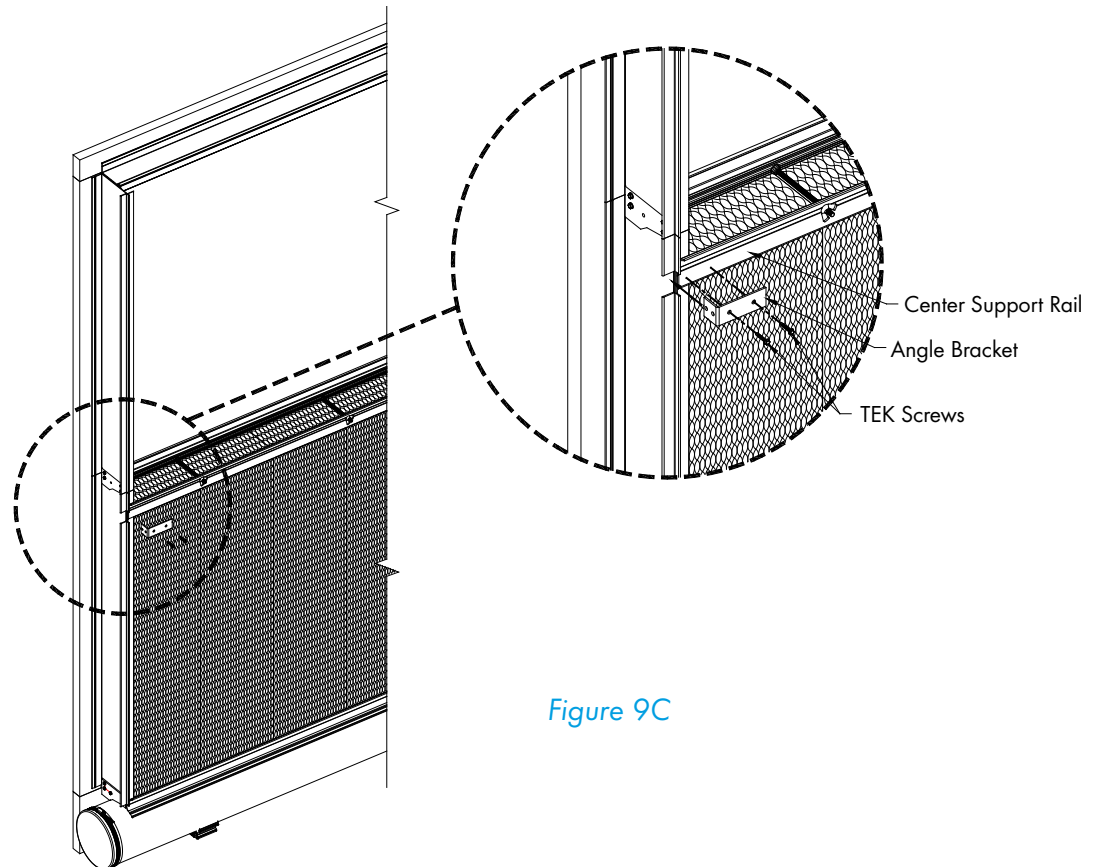

Figure 9C
Holding the left End Panels tight to front Center Support Rail, place the long side of Angle Bracket on Center Support Rail and the short side over End Panel. *See Figure 9C.* Attach Angle Bracket to Center Support Rail using (2) #10 1¼" TEK Screws (provided). Repeat for Right End Panels.